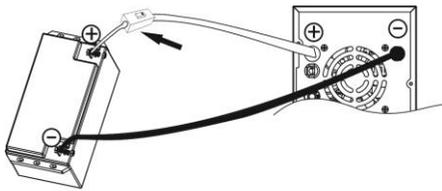

Fig. 1
Step 1 - Install a DC Breaker in a positive battery line. The rating of the DC Breaker must be according to the inverter's battery current (50 Amp). Keep the DC breaker off. **(see Fig. 1)**
1) Single battery connection (Refer to Fig. 1): When using a single battery, its voltage must be equal to the Nominal DC Voltage of the unit **(see below Table 1)**.